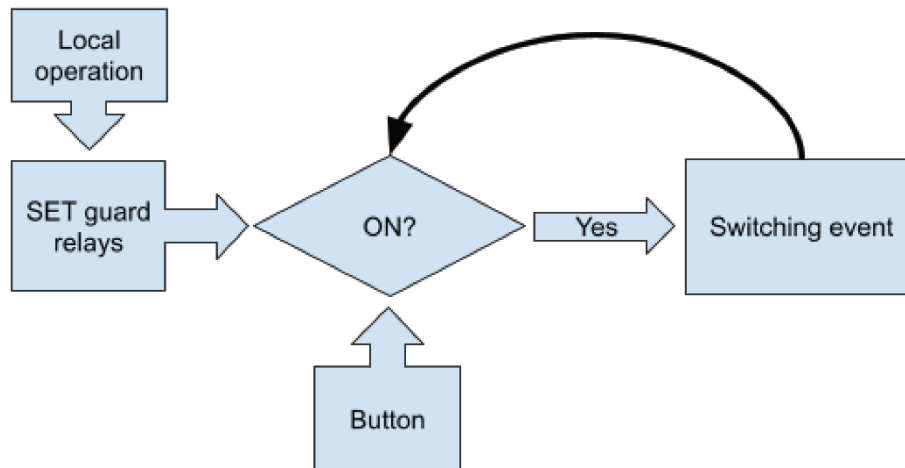

Figure 9: In local operation, the multiplexer changes between states with the ENA CH button.
7. Switching event (see figure 9):